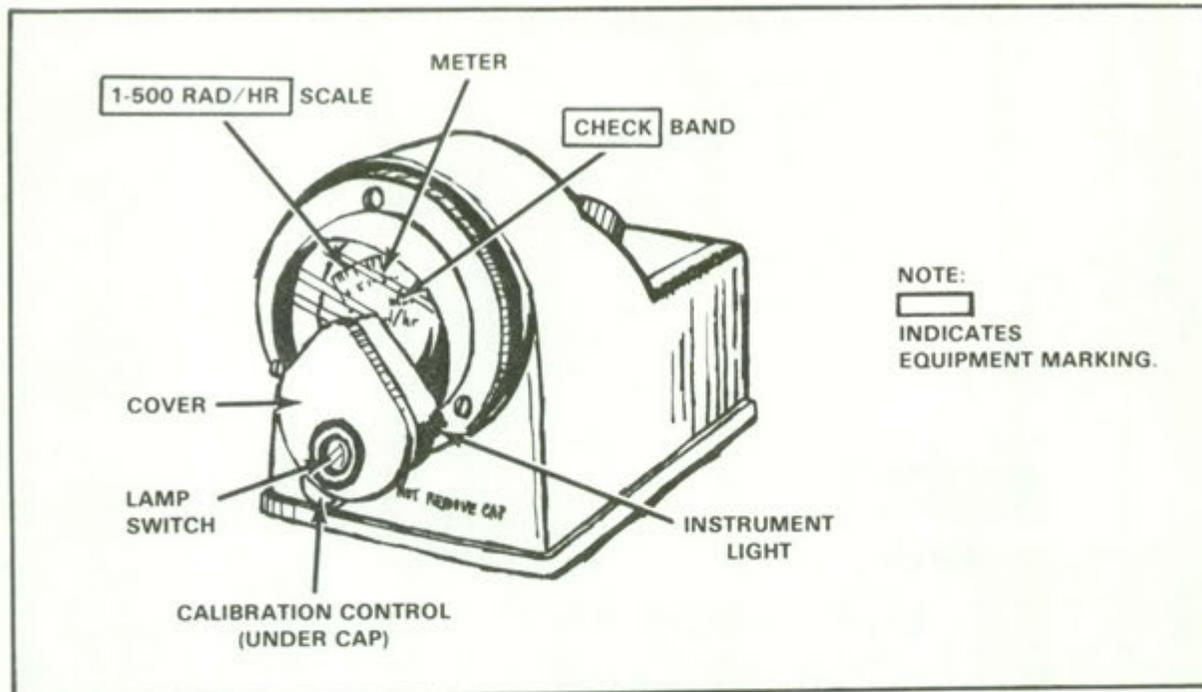

Figure 5. Radiacmeter (with instrument light), front and right side.
j. Remove the cover from the instrument light (figure 5) by lifting up on the tab (not shown) at the rounded (bottom) end of the cover.
n. Replace the cover on the instrument light by fitting the pointed end of the cover on the pointed end of the battery/lamp compartment and carefully pressing down on the rounded (bottom) end of the cover (figure 5).
Some radiacmeters do not have an instrument light, but have a slightly radioactive dial that permits reading of the meter in low light. Others do not have a radioactive dial, but have an instrument light that also permits reading the meter in low light. To operate the instrument light (figure 5), press and hold the lamp switch; the lamp should light. When the lamp switch is released, the lamp should go out.